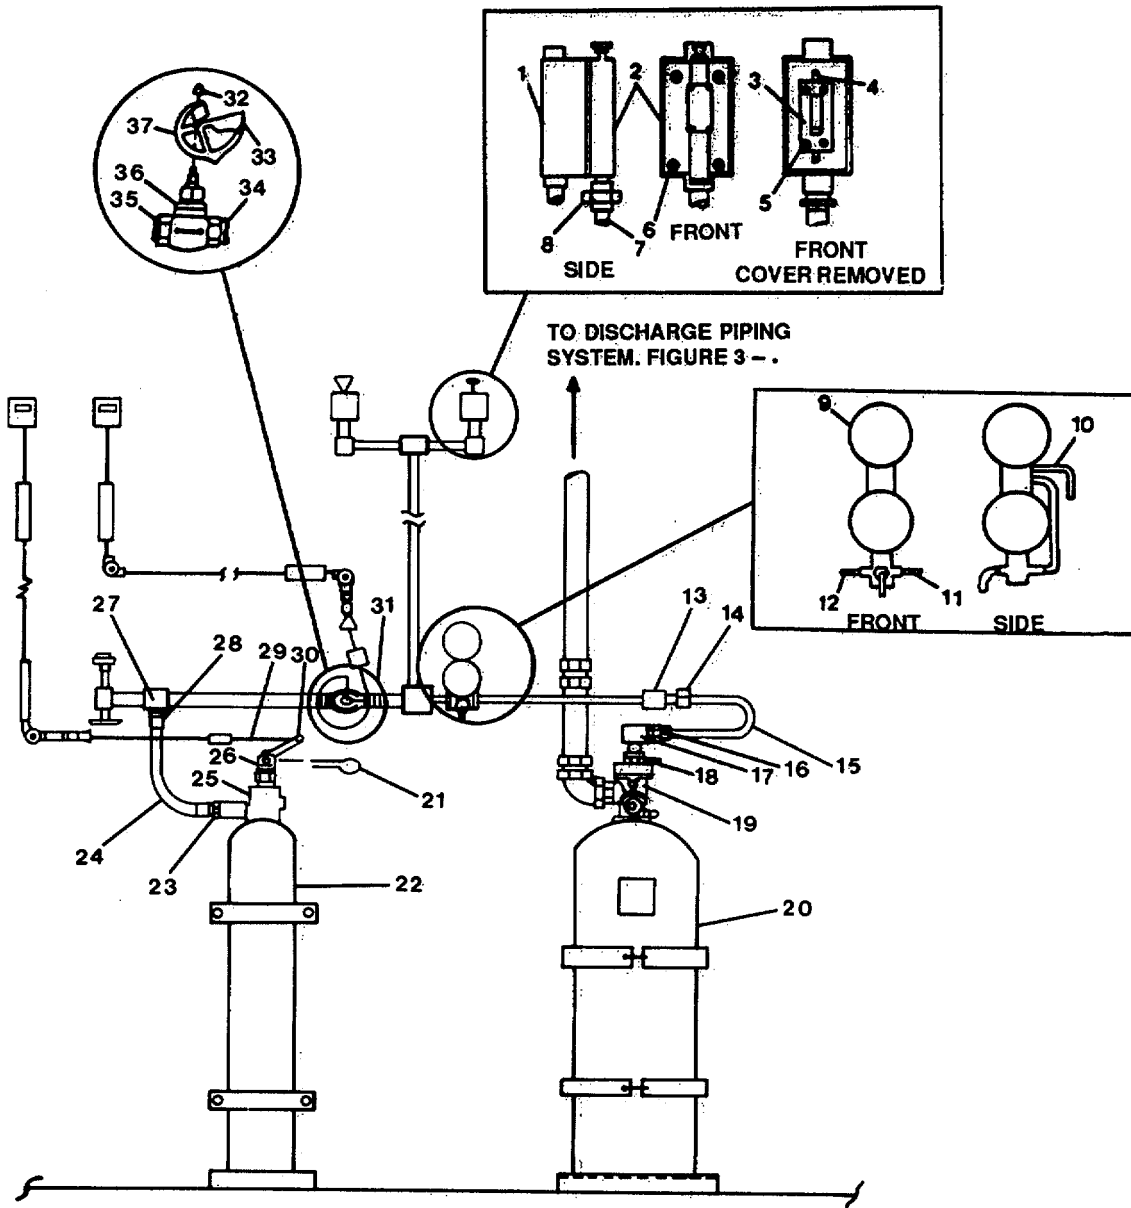

FIGURE 3-4. Halon Subsystem - Paint Locker/Main Machinery Room.
(1) Release lever.
(a) Install pin (21, Figure 3-4) in release lever (26).
- (1) Disconnect cable (3, Figure 3-4) from cable mount (33) on sector handle (37).
- (2) Remove nut (32) and remove sector handle from valve (36).
- (3) Disconnect piping (34, 35) from valve.
- (4) Remove valve.
- (1) Position switch (3, Figure 3-4) in housing body (1) with mounting screw holes aligned.
- (2) Secure switch with two screws (4).
- (3) Position electrical wire leads on switch.
- (4) Secure wire leads to switch with four screws (5).
- (5) Remove tags from wiring.
- (6) Position cover assembly (2) on housing with switch and mounting screw holes aligned.
- (7) Secure cover assembly with four screws (6).
- (8) Connect pipe (7) to cylinder at union (8).
(3) Electro-pneumatic actuator.
(a) Install actuator (18) in valve (19, Figure 3-4) on halon tank (20).